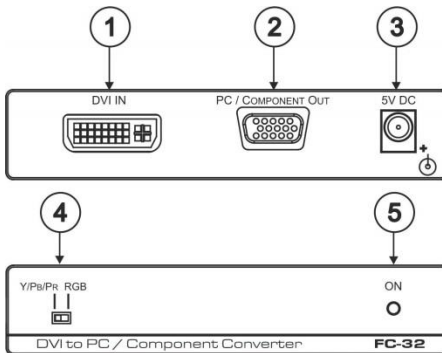

Figure 1: FC-32 DVI to PC/Component Converter
3. Set the front panel switch (see Figure 1) to Y/PB/PR for a component acceptor or to RGB for a computer graphics acceptor.